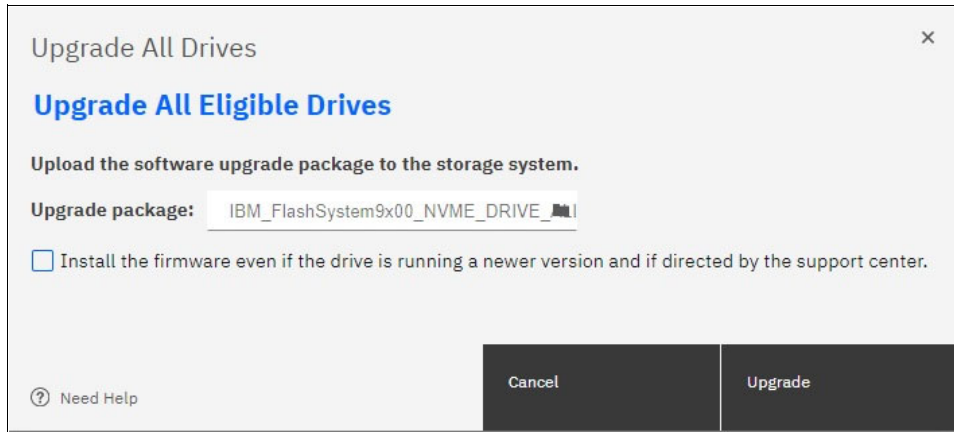

Figure 10-6 Drive firmware upgrade
2. As shown in Figure 10-6 on page 436, in the Upgrade Package text box browse to the drive firmware package you downloaded in section , “Obtaining the software packages” on page 426.